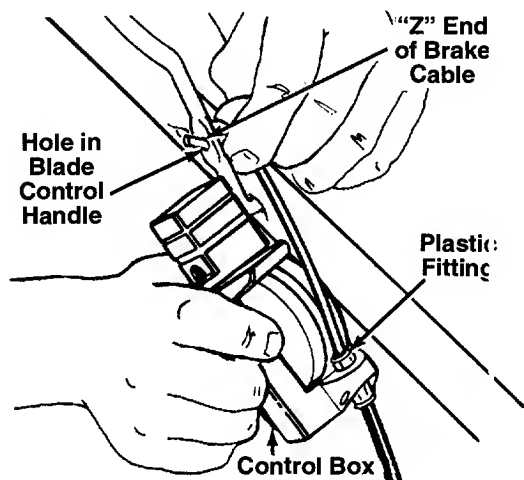

FIGURE 3.
NOTE: If the brake cable is not attached to the control box, insert the "Z" end of the cable into the control box as shown in figure 3. Push the plastic fitting until it locks into the control box.
4. Holding the control box near the left side of the upper handle (control box must be inside the handle), hook the "Z" end of the brake cable into the control handle from the **outside** to the **inside**. See figures 3 and 4.